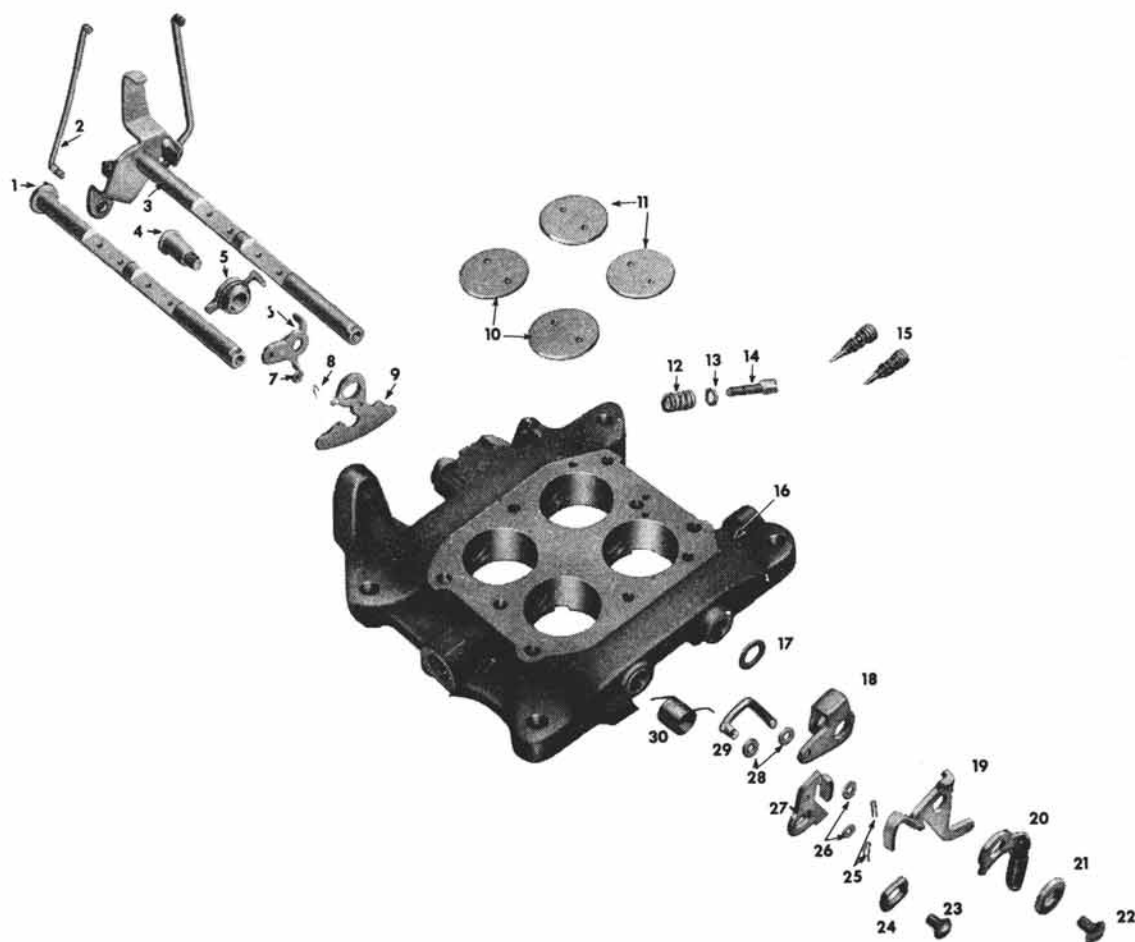

Fig. 27-C Throttle Flange Exploded
NOTE: All references in this procedure are to Fig. 27-C.
4. Install two idle mixture screws and springs (Fig. 27-C) finger tight, then back out one (1) turn as a temporary adjustment. Do not overtighten screws as this can deform seating surfaces.